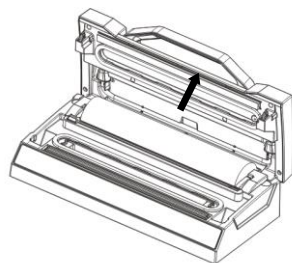

Fig.1
1. Open the top cover . **Fig.1**